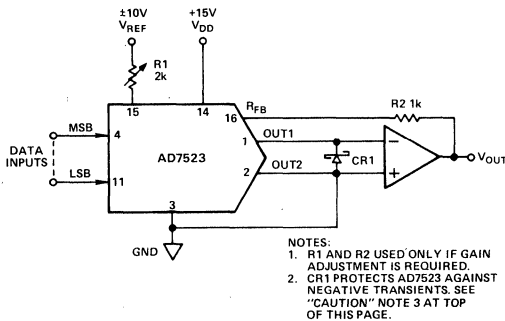

Figure 1. Unipolar Binary Operation (2-Quadrant Multiplication)
- The inputs of some IC amplifiers (especially wide bandwidth types) present a low impedance to V^- during power-up or power-down sequencing. To prevent the AD7523 OUT1 or OUT2 terminals from exceeding $-300mV$ (which causes catastrophic substrate current) a Schottky diode (HP5082-2811 or equivalent) is recommended. The diode should be connected between OUT1 (OUT2) and ground as shown in Figure 1 and 2. Protection diodes are not required when using TRI-FET amplifiers such as the AD542 or AD544.